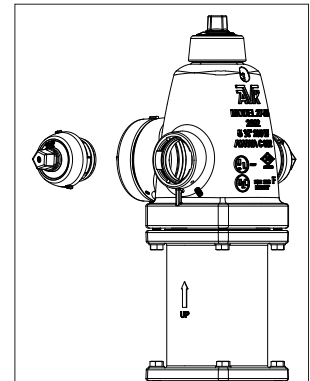

Fig. 6E
4. Loosen the cap, then finish removing the cap/nozzle assembly. (See fig. 6E)